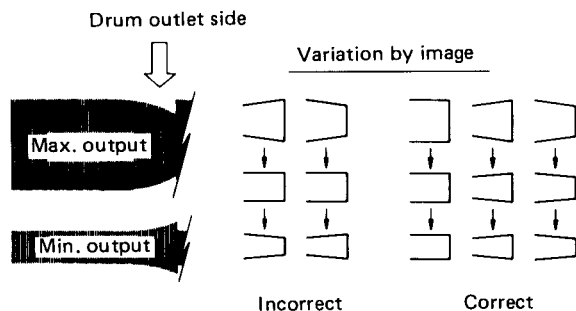

Fig. 2-7-3 FM waveform variation at drum outlet side
- In the same manner as above, check up FM waveform variation between maximum and minimum outputs whether they are nearly in parallel lines or not. If not, adjust the take-up guide roller height (tape outlet side). See Fig. 2-7-3.